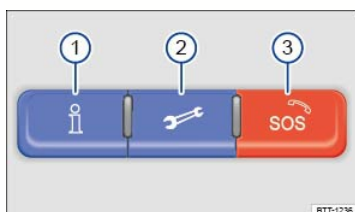

Fig. 140 In the roof console: 3-button module to connect to VW Car-Net Security & Service operators (if equipped).
You can access VW Car-Net Security & Service via your VW Car-Net iPhone® or Android® app (text and data rates apply) and the VW Car-Net Security & Service website (<http://www.vw.com/carnet>). If you have a question or would like to subscribe, please either press the ⇒ Fig. 140① button in your vehicle or contact the VW Car-Net Security & Service Response Center at 1-877-820-2290. For more information or to log on to your VW Car-Net Security & Service account, visit <http://www.vw.com/carnet>.
The Manual Emergency Call service and all other VW Car-Net® Security & Service features require a trial or paid subscription. To begin your trial or paid subscription, authentication and activation are required. For more information, please visit the website (<http://www.vw.com/carnet>), press the ⇒ Fig. 140① button in the 3-button module in your vehicle, or contact the VW Car-Net Security & Service Response Center at 1-877-820-2290.
Key to ⇒ Fig. 140 :